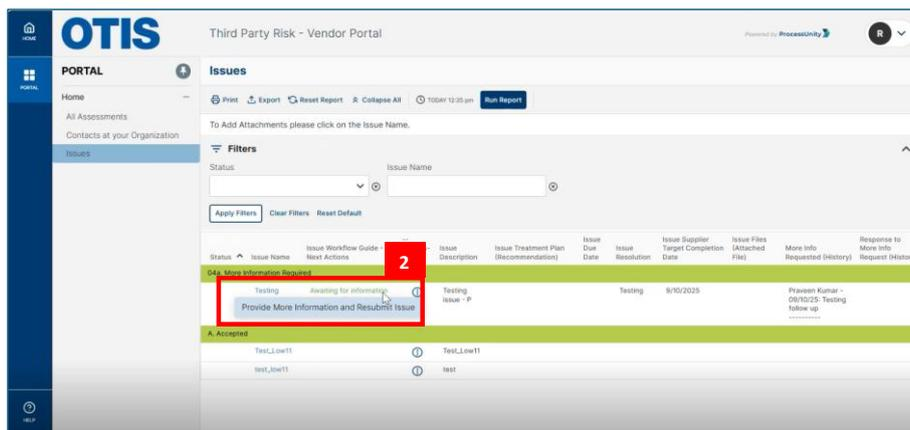

Figure 31
2. Navigate to **Issues** tab. Click the three dots followed by **Provide More Information and Resubmit Issue** to provide more information (Refer figure 31)